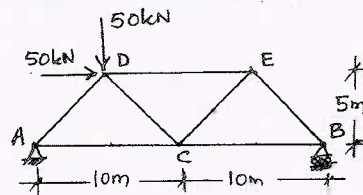

Fig.Q.6(a)
- 6 a. Determine the horizontal movement at support B of the steel truss loaded as shown in Fig.Q.6(a) by unit load method. Take  $A = 1000 \text{ mm}^2$ ,  $E = 200\text{Gpa}$ . (10 Marks)